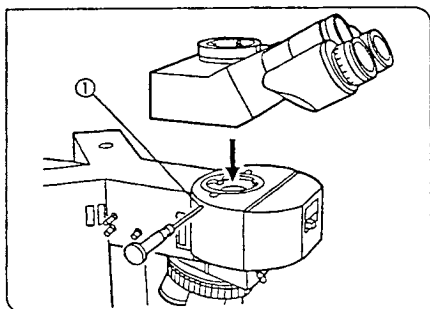

Fig. 16
**11** Mounting the Observation Tube (Fig. 16)
1. Using the Allen screwdriver, loosen the observation tube clamping screw ①.